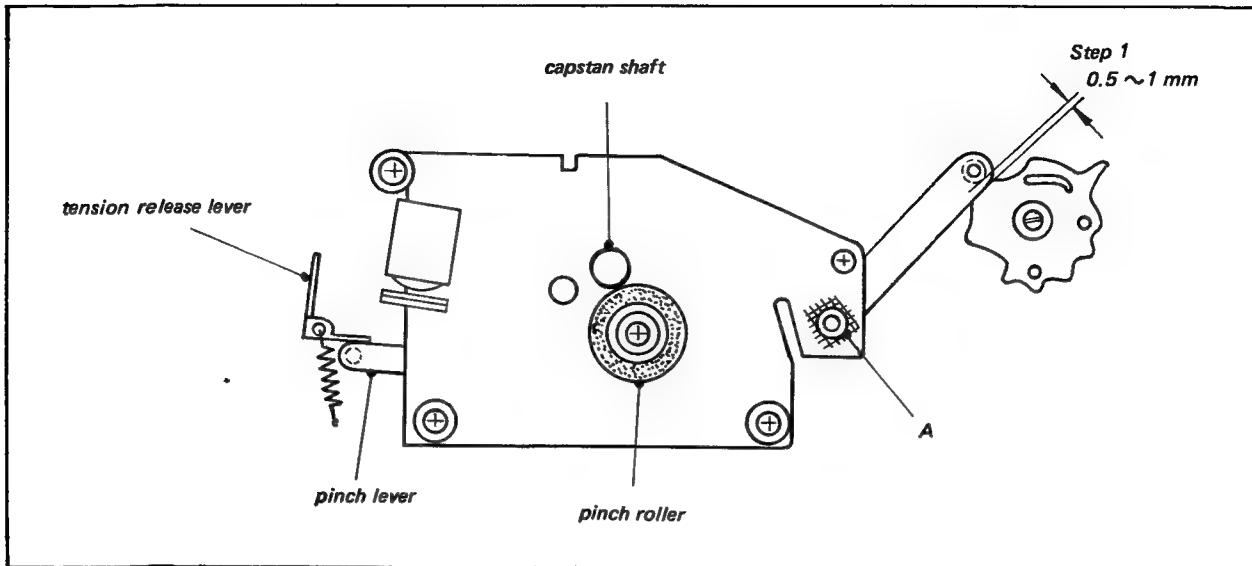
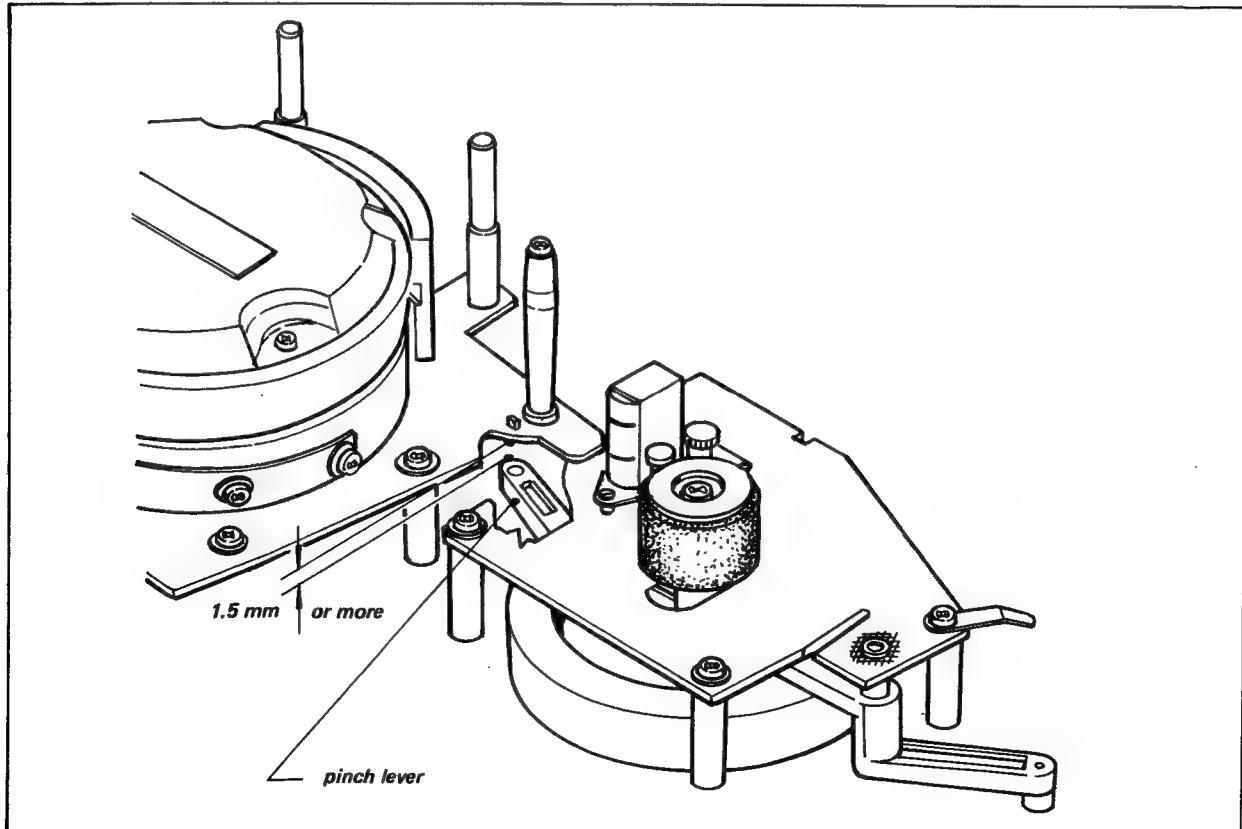
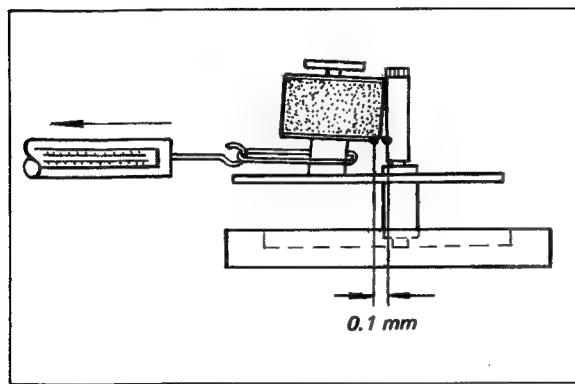

Fig. 4-21. Capstan deck adjustment
Fig. 4-23. Pinch lever adjustment
Fig. 4-24. Pinch roller adjustment
17. Put the Capstan Deck Assembly with Flywheel on the four posts of the chassis. Position the Pinch Lever with relation to Tension Release Lever as shown in Fig. 4-21.
1. Set the Function Lever to FORWARD. Check that the clearance between the Pinch Lever and the Function Selector Cam is 0.5 to 1 mm. If necessary, readjust the position of the Capstan Deck Assembly. See Fig. 4-21.
3. Set the Function Lever to FORWARD. Check that the clearance between the upper end of the Pinch Lever and the lower end of the Drum Mounting Deck is more than 1.5 mm. See Fig. 4-23. If it needs adjustment, bend "A" in Fig. 4-21, with a pair of pliers. Recheck Pinch Roller Pressure as described in Section 4-18.
1. Set the Function Lever to FORWARD. Check for 0.1 mm clearance between the lower end of the Pinch Roller and the Capstan Shaft when the upper end of the Pinch Roller contacts the Capstan Shaft. See Fig. 4-24. Bend "A" in Fig. 4-21 with a pair of pliers as needed to obtain the correct spacing.
2. Place the Function Lever in the FORWARD position. Make a loop in a piece of string and attach the string scale around the base of the Pinch Roller Shaft. See Fig. 4-24. Pull the scale in the direction indicated by the arrow. Check the reading when the Pinch Roller just leaves the Capstan Shaft. It should be between 1.5 and 2.2 kg.